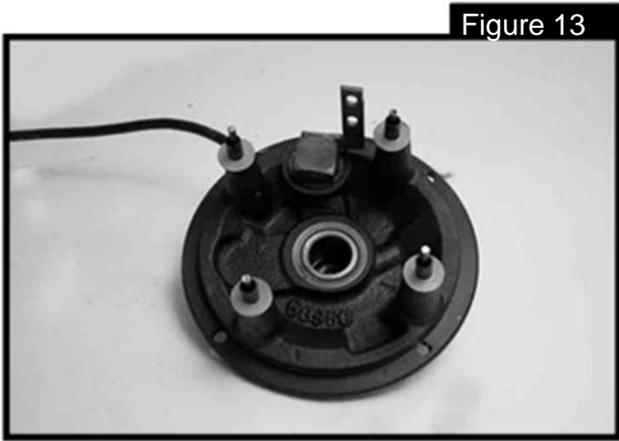

Figure 13
1.3.1 Insert four guide pins, one in each of the housing mounting posts, and slide an insulation bushing and an insulation washer on each of the pins. Insulation bushings must be positioned flush to the face of the mounting post. (figure 13)